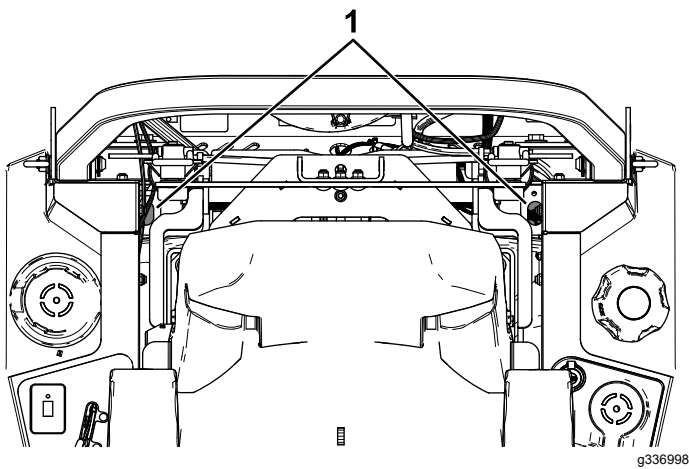

Figure 74
- **For ZT 4400 Hydros**, use an extension and 7/16-inch socket, access the vent plug from the top of the machine through the holes near the roll-bar mounts (Figure 74).